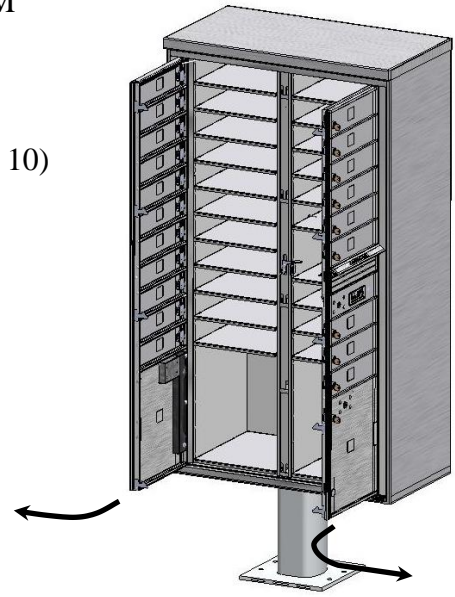

Figure 10 – Open Master Load Doors
**Step 1-** Open versatile™ 4C master load doors. (See Figure 10)